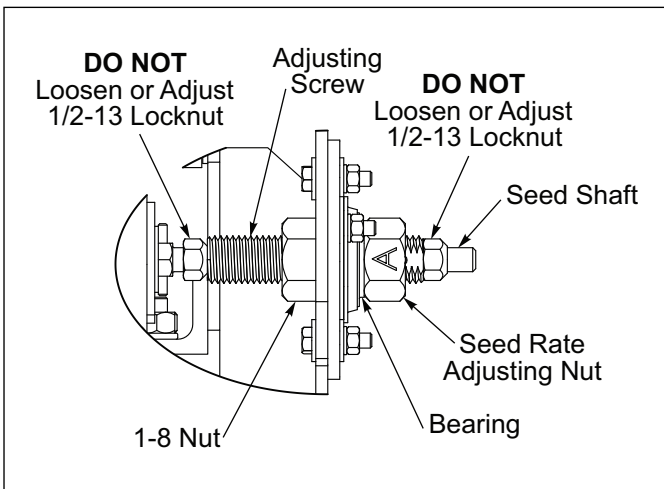

Figure 4-6: Front Seed Box Rate Adjuster
All Seed Meters must be set the same to ensure seeding uniformity. To check, set the Seed Rate Adjusting Nut to 0-A. The "A" on the Seed Rate Adjusting Nut is positioned over the "0" (the nut covers half of the "0") and snug against the Bearing. See Figures 4-6 and 4-7.
- 1/2-13 Locknuts on both ends of the Adjusting Screw are used to adjust all Seed Meters the same amount. See Figures 4-6 and 4-7. To adjust Seed Meters to be closed at "0A", loosen 1/2-13 Locknuts and set Adjusting Screw to "0A". Slide Seed Shaft to close all Seed Meters. Tighten 1/2-13 Locknuts against Adjusting Screw.